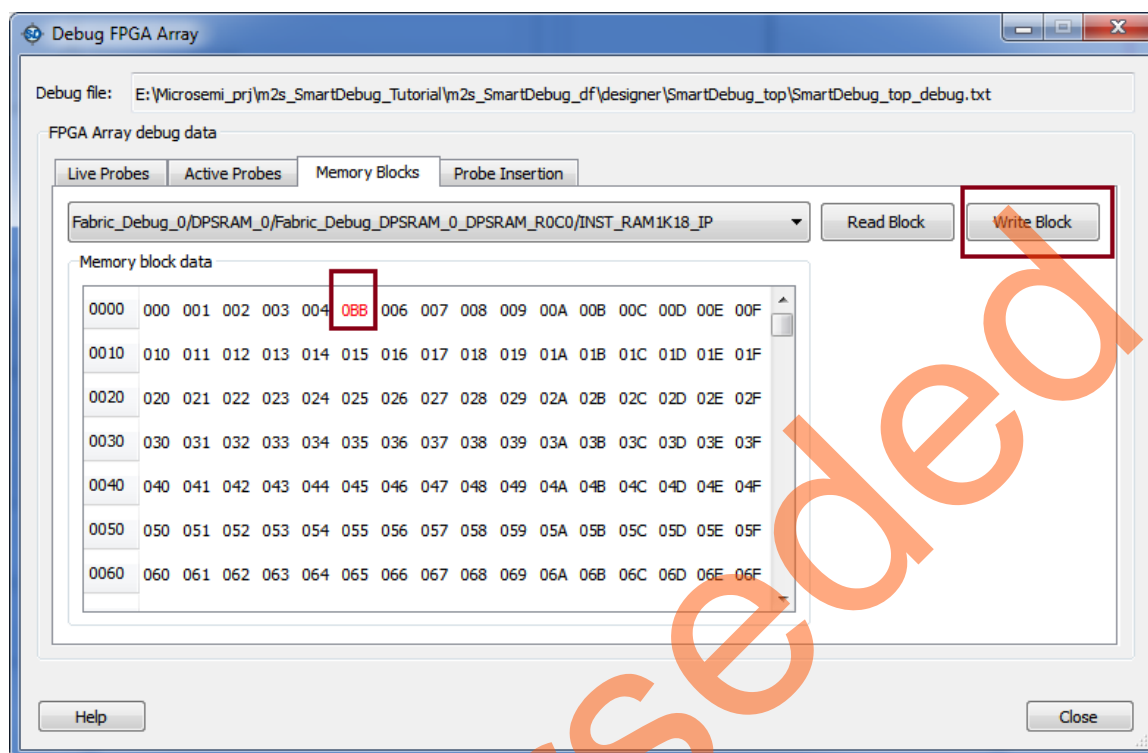

Figure 23 • Modifying DPSRAM Contents
3. Modify the value from the current value to break the count pattern. An example is shown in Figure 23.